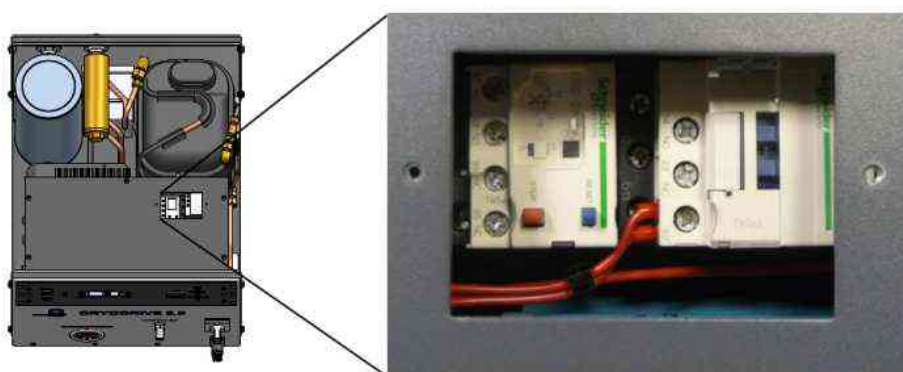

Figure 5 – Overload relay showing stop and reset buttons
- Locate the protection switch on the current-limit potentiometer which is situated in the CryoController, refer to Figure 5. The switch can be accessed by removing the lid of the CryoController unit.